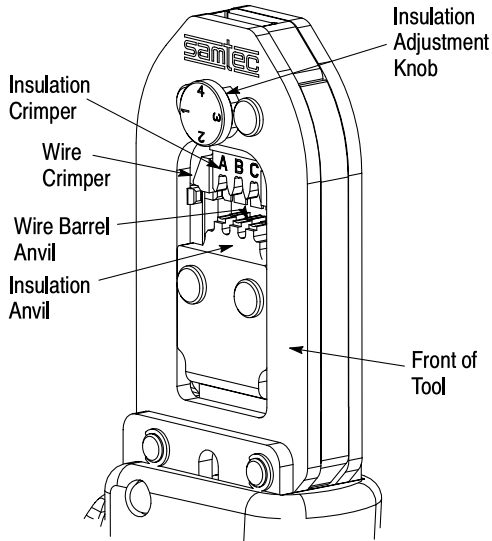

Figure 1
Straight Action Hand Tool CAT-HT-179-2024-11 (Figure 1) was designed to crimp CC79L (IPD1-Series) contacts.
insulation barrel during the crimping operation. The locator/insulation stop positions the contact, and limits the insertion distance of the stripped wire into the contact. In use, the locator/insulation stop rests in the locator slot of the contact (See Figures 1 and 2). The ratchet assures full crimping of the contact. Once engaged, the ratchet will not release until the dies have been fully closed.
4. Position the contact between the crimpers so that the locator/insulation stop enters the slot in the contact. The wire barrel should butt against the locator/insulation stop. Refer to Figure 1.
5. Check the clearance between the bottoming surfaces of the wire crimper and the wire anvil. See Figure 1. If the clearance is 0.025 mm [.001 in.] or less (on at least two of the bottoming surfaces), the ratchet is satisfactory. If clearance exceeds 0.025 mm [.001 in.], the ratchet is out of adjustment and must be repaired.